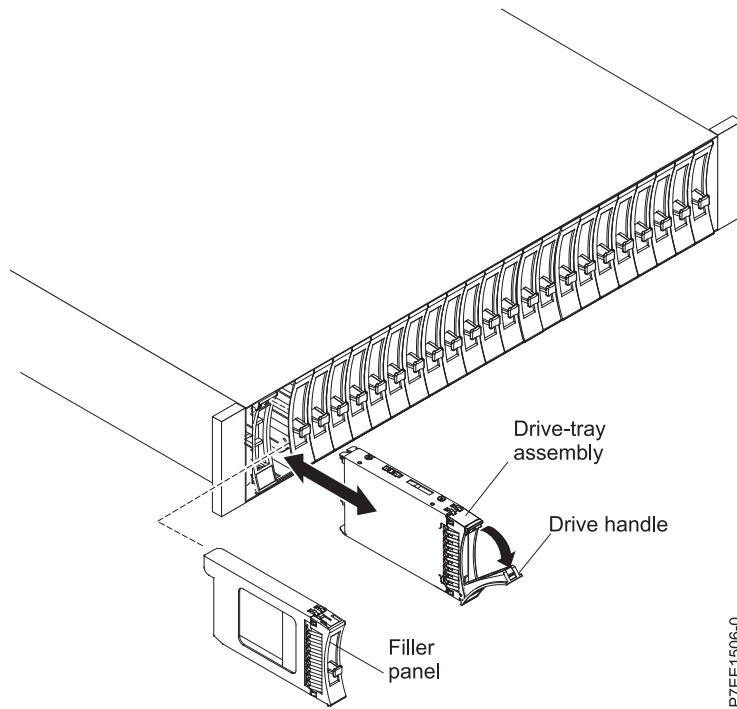

Figure 48. Removing a drive from an ESLS storage enclosure
5. Grasp the front of the drive and pull it out from the slot, ensuring that you support the bottom of the drive, as shown in Figure 48 on page 43.